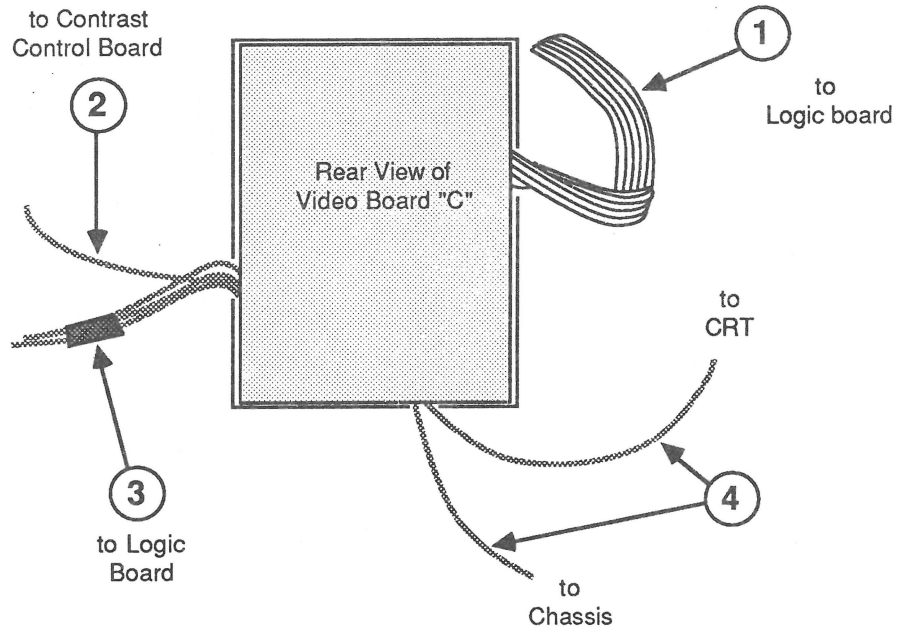

FIGURE 12
- D2, from the right side of video board "C" (Figure 12, #1).
- D7, from the left side of video board "C" (Figure 12, #3).
6. Disconnect the cable at location V-5 on the contrast control board (Figure 12, #2).
7. Disconnect the two black cables from the bottom of video board "C" at their midpoint connectors (Figure 12, #4).